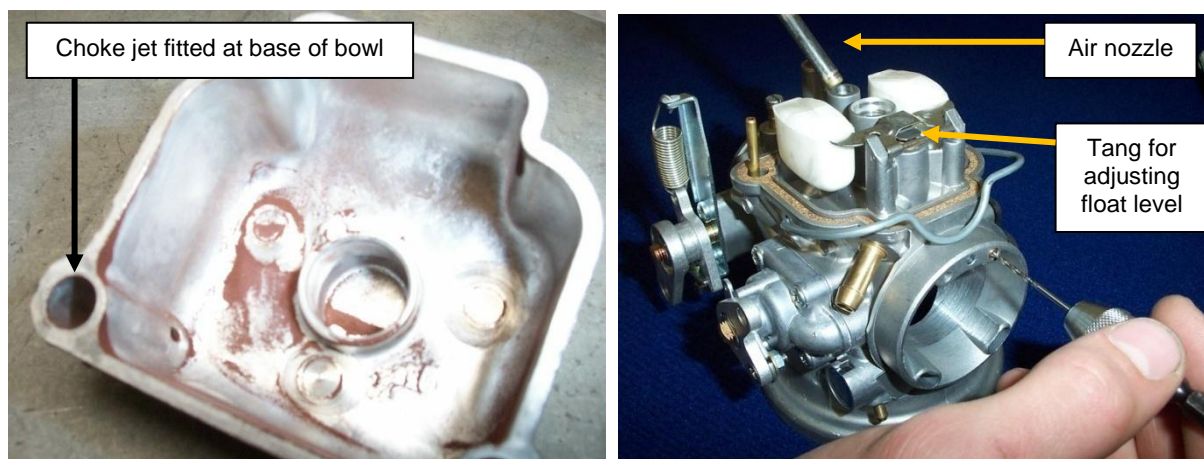

Figure 108 – Carburettor Updates
- To improve cold starting the choke jet may be enlarged. Drilling to 1.2mm is recommended for Australian applications. The choke jet is located in the bowl as shown in Figure 108 (left).
- To improve the engine's idle the idle jet port must be drilled out to 1.6mm. This is done at the factory during assembly but is worth checking at overhaul. Figure 108 (right) shows the drilling being done by hand. Note the air nozzle blowing into the idle jet to force the aluminium shavings from the drill out of the carburettor.
- On initial disassembly, check for contamination like that shown in Figure 108 (left). Contamination like this will be an early indicator for increased wear in the engine and will warn the overhauler to check thoroughly for wear on parts like cylinders.